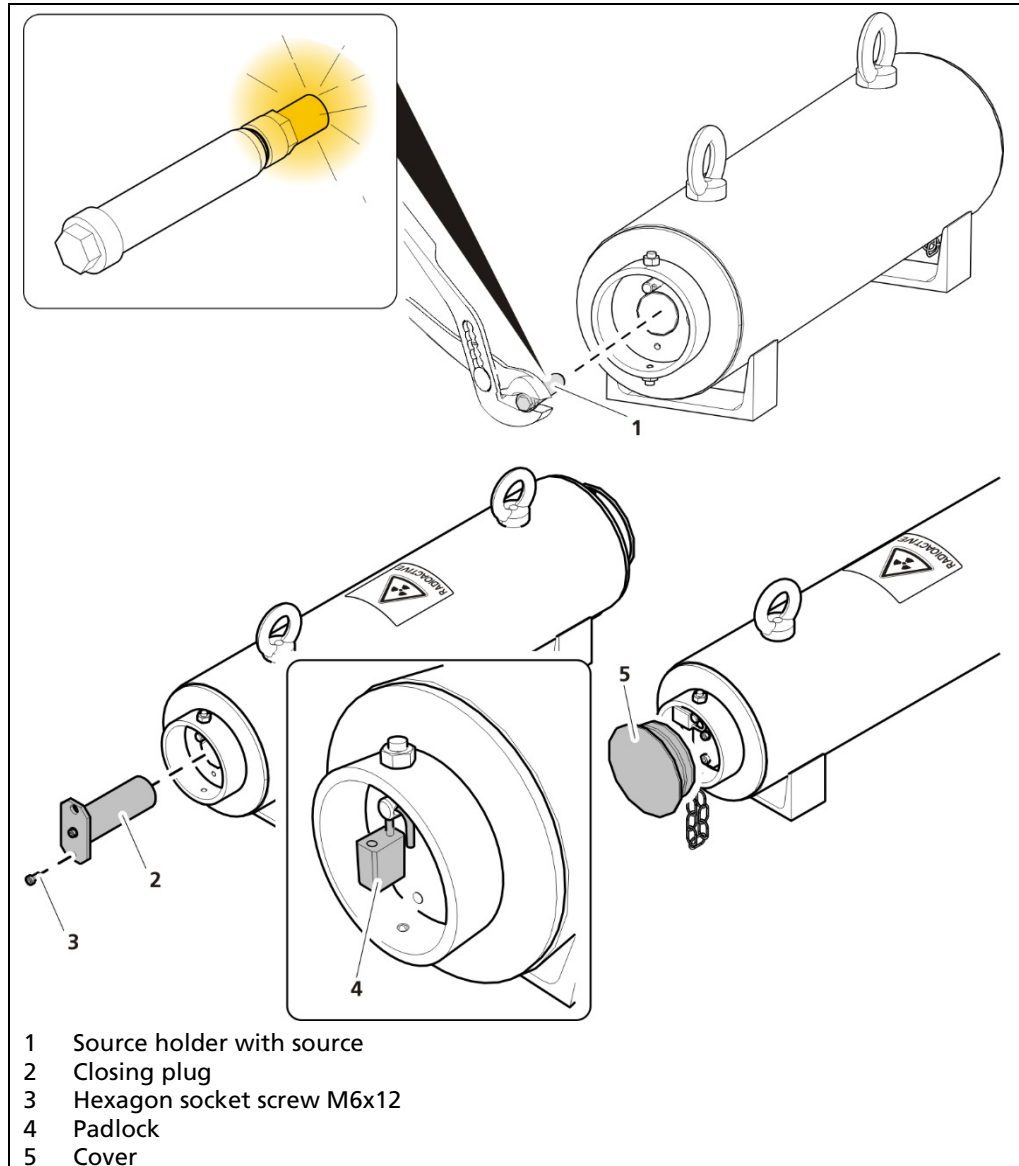

Fig. 5 Insert point sources
1. Insert the source holder with source (Fig. 5, Item 1) into the shield as quickly as possible.
2. Attach the closing plug (Fig. 5, Item 2) and screw it with a hex socket screw (Item 3).
3. Attach the padlock (Fig. 5, Item 4).
4. Attach the cover (Fig. 5, Item 5).